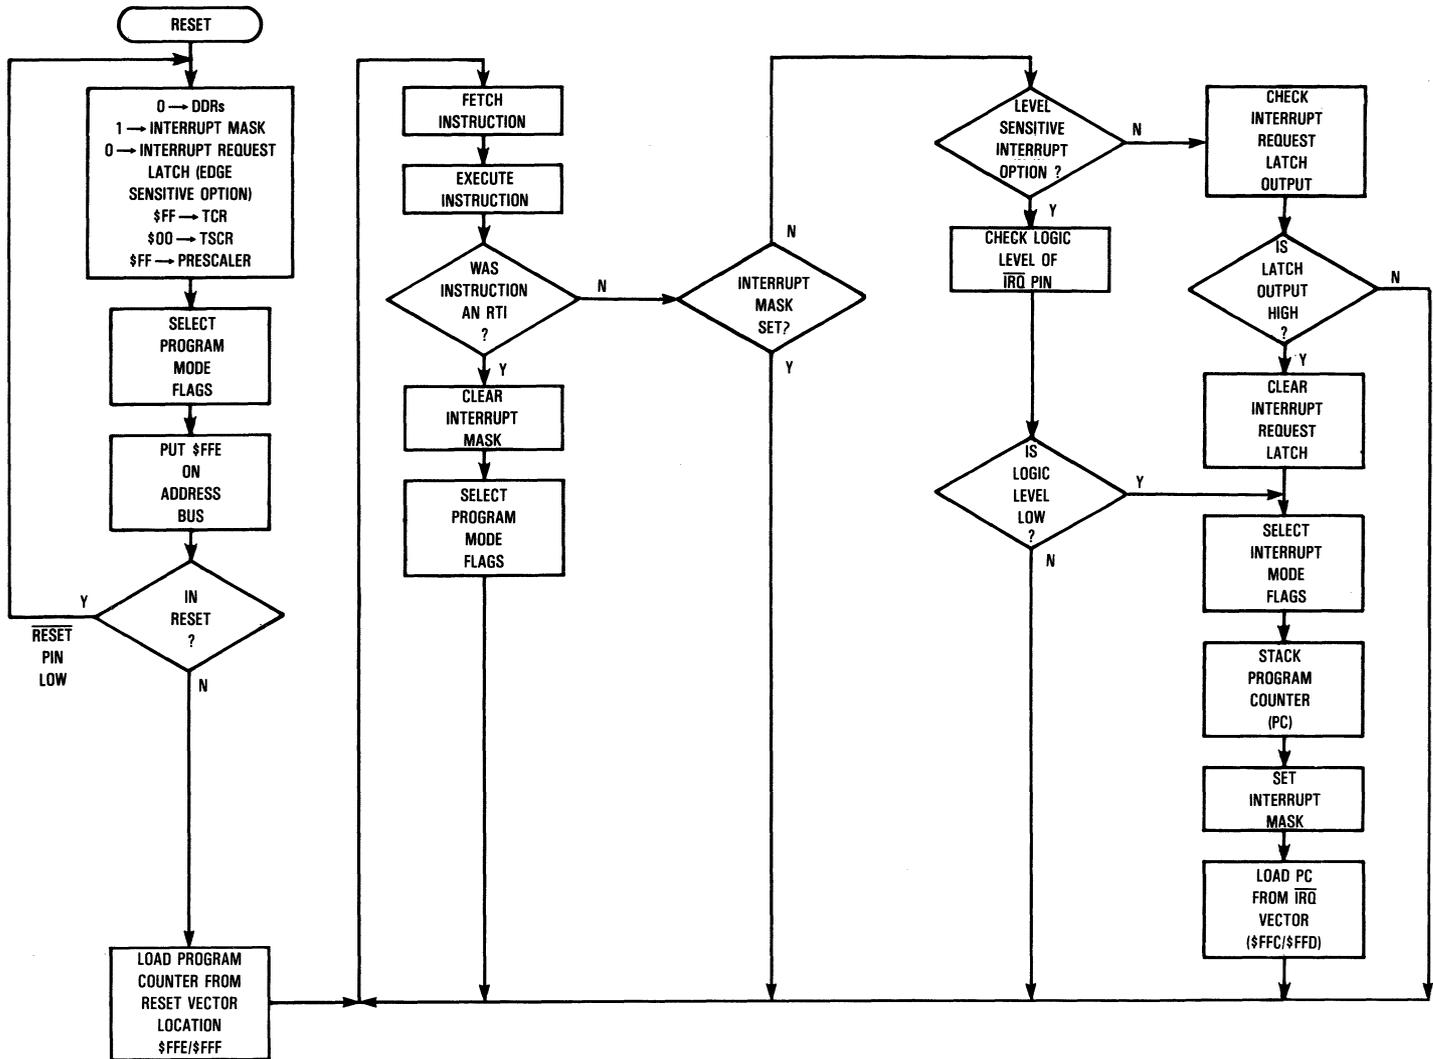

Figure 4-1. Reset and Interrupt Processing Flowchart
When the $\overline{\text{IRQ}}$ pin is pulled low, the internal interrupt request latch is set. Prior to each instruction fetch, the interrupt request latch is tested and, if its output is low, an interrupt sequence is initiated at the end of the current instruction (provided the interrupt mask is cleared). Figure 4-1 contains a flowchart which illustrates both the reset and interrupt sequence. The interrupt sequence consists of one cycle during which: the interrupt request latch is cleared, the interrupt mode flags are selected, the PC is saved on the stack, the interrupt mask is set, and the $\overline{\text{IRQ}}$ vector jump address (single chip mode = \$FFC/\$FFD, self-test mode = \$FF8/\$FF9) is loaded into the PC. Note that the contents of these locations are not inherently decoded as an address to which program control (PC) should jump to, but instead are decoded like any other ROM word. It is therefore essential that the vector contents specify a JMP instruction in addition to the starting address of the interrupt service routine. This routine should save the values of the accumulator, and X and Y registers, if required, since the values will not be stored on the stack. Internal processing of the interrupt continues until an RTI (return from interrupt) instruction is processed. During the RTI instruction, the interrupt mask is cleared and the program mode flags are selected. The next instruction of the program is then fetched and executed. Once the interrupt was initially detected and the interrupt sequence started, the interrupt request latch is cleared so that the next (second) interrupt may be detected even while the previous (first) one is being serviced. However, even though the second interrupt sets the interrupt request latch during processing of the first interrupt, the second interrupt sequence will not be initiated until completion of the interrupt service routine for the first interrupt. Completion of an interrupt service routine is always accomplished using an RTI instruction to return to the main program. The interrupt mask (which is not directly available to the programmer) is cleared during the last cycle of the RTI instruction.
The actual operation of the level-sensitive and edge-sensitive options are similar except that the level-sensitive option does not have an interrupt request latch. With no interrupt request latch, the logic level of the $\overline{\text{IRQ}}$ pin is checked for detection of the interrupt. Also, in the interrupt sequence, there is no need to clear the interrupt request latch. These differences are illustrated in the flowchart of Figure 4-1.
The MCU can be reset in two ways: by initial power up (see Figure 4-1) and by the external reset input ($\overline{\text{RESET}}$). During power up, a delay of t_{RHL} is needed before allowing the $\overline{\text{RESET}}$ input to go high. This time delay allows the internal clock generator to stabilize. Connecting a capacitor and resistor to the $\overline{\text{RESET}}$ input, as shown in Figure 4-5, typically provides sufficient delay.